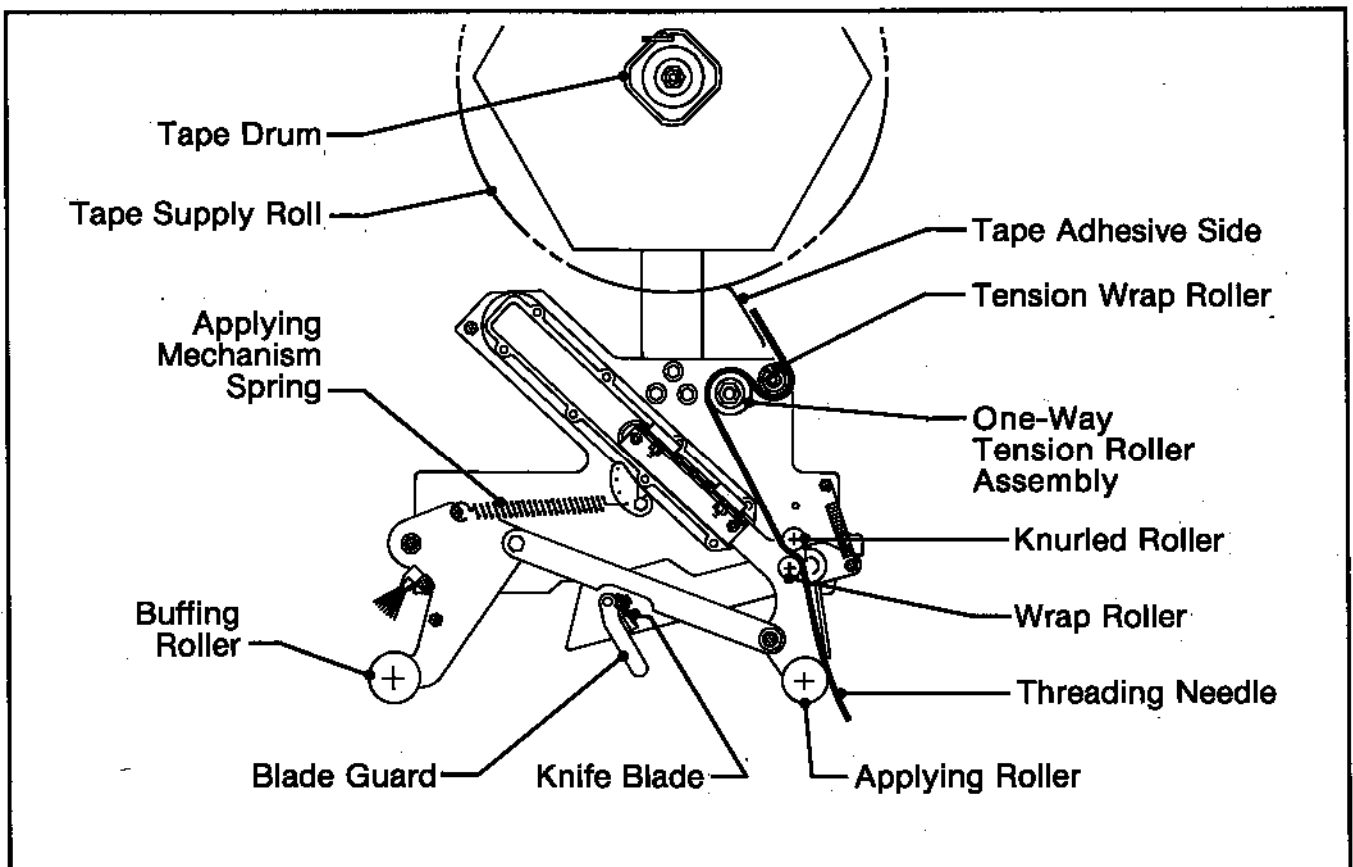

Figure 4A - Tape Threading Diagram - Right Hand Taping Head - Top View
1. BOTH THE SMT TAPING HEADS UTILIZE AN EXTREMELY SHARP KNIFE BLADE ON THE ORANGE CUTTER LEVER ASSEMBLY THAT IS LOCATED UNDER THE BLADE GUARD WHICH HAS THE "CAUTION - SHARP KNIFE" LABEL. BEFORE WORKING WITH THE TAPING HEADS OR ATTEMPTING TO LOAD THE TAPE, REFER TO FIGURES 4A AND 4B AND IDENTIFY THE BLADE LOCATION. KEEP HANDS OUT OF THESE AREAS EXCEPT AS NECESSARY TO SERVICE THE TAPING HEADS.
Refer to Figures 4A, 4C and 4D